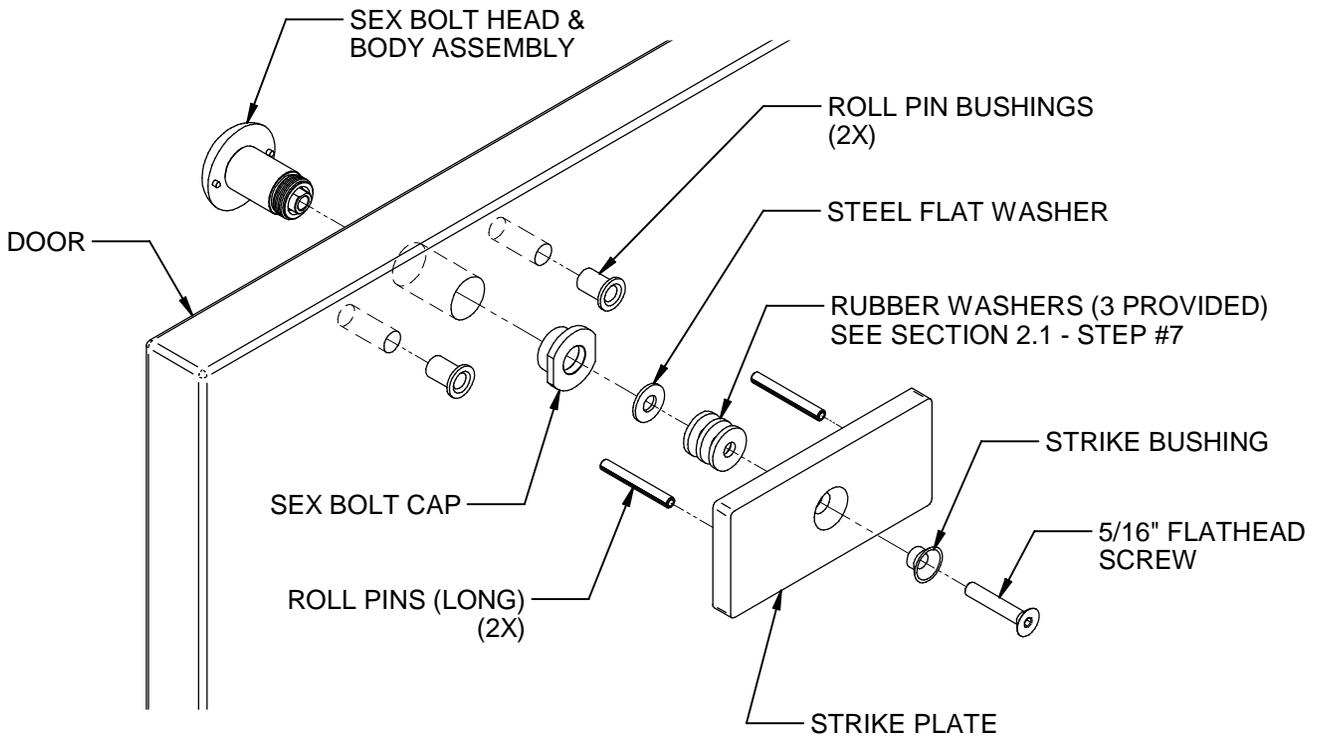

Figure 3
Using the following step-by-step instructions and Figure 3, install the sex bolt and the strike plate to the door.
3. Remove the sex bolt assembly, then drill two (2) 3/16" [5mm] diameter holes into the door at the previously marked locations.
6. Install the two (2) long roll pins into the strike plate and the two (2) plastic roll pin bushings into the 1/2" holes in the door.
7. Assemble the strike bushing, the 5/16" flathead screw, 1 - 3 rubber washers (2 recommended) and the steel flat washer through the center hole of the strike plate in the sequence shown (see Figure 3).